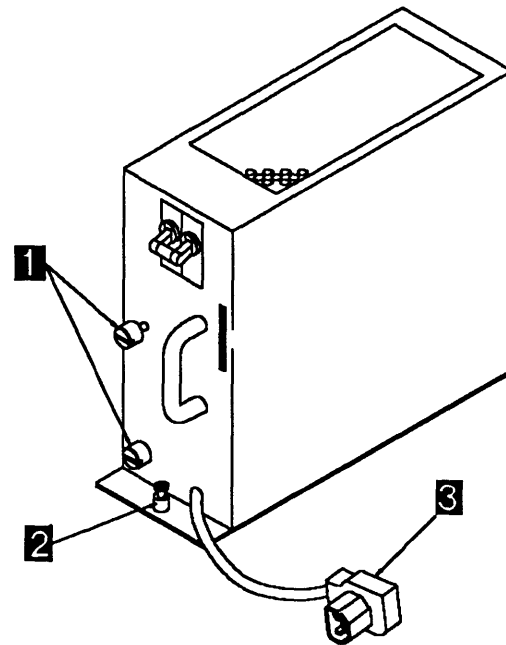

Figure 5-135. Line Adapter Power Supply
5. Using Figure 5-135, remove the power supply(ies) (Up to 4 power supplies can be installed) as follows: